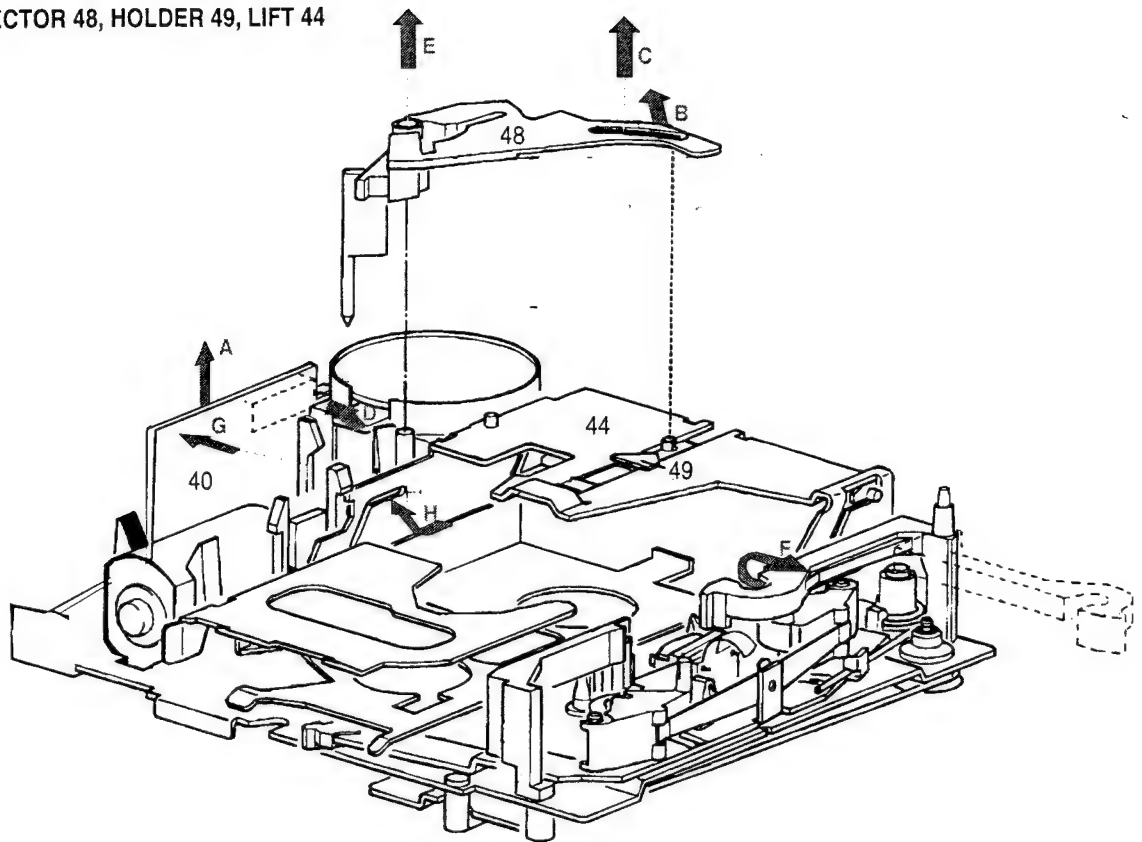

Fig. 1
- 1.2 Lift in play position - unclamp cassette holder (49) from eject lever (48) with a left-upwards motion acc. fig. 1-B
- 1.3 Lift in eject position - push plastic hook (fig. 1-D) and pull out eject lever, remember position of ejector spring (55) and switching pin (54) for re-assembly later on
- 1.4 Release fixation lever (fig. 1-F) by clicking out in left direction and then turn to the right
- 1.5 Lift in mid position - take out carrier and lift by releasing plastic hooks at the left (fig. 1-G)